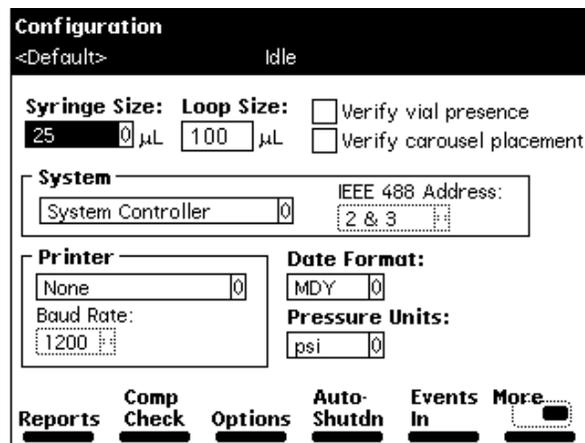

Figure 2-3 Configuration Screen
1. Press the **Config** screen key in the Main screen. The Configuration screen appears (Figure 2-3).